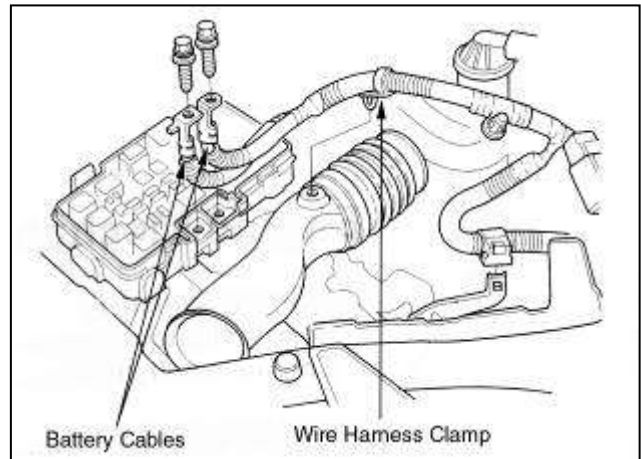

Fig. 2
- b. Remove the battery cables from the fuse box and remove the wire harness clamp from the intake air duct. **(Fig. 2)**